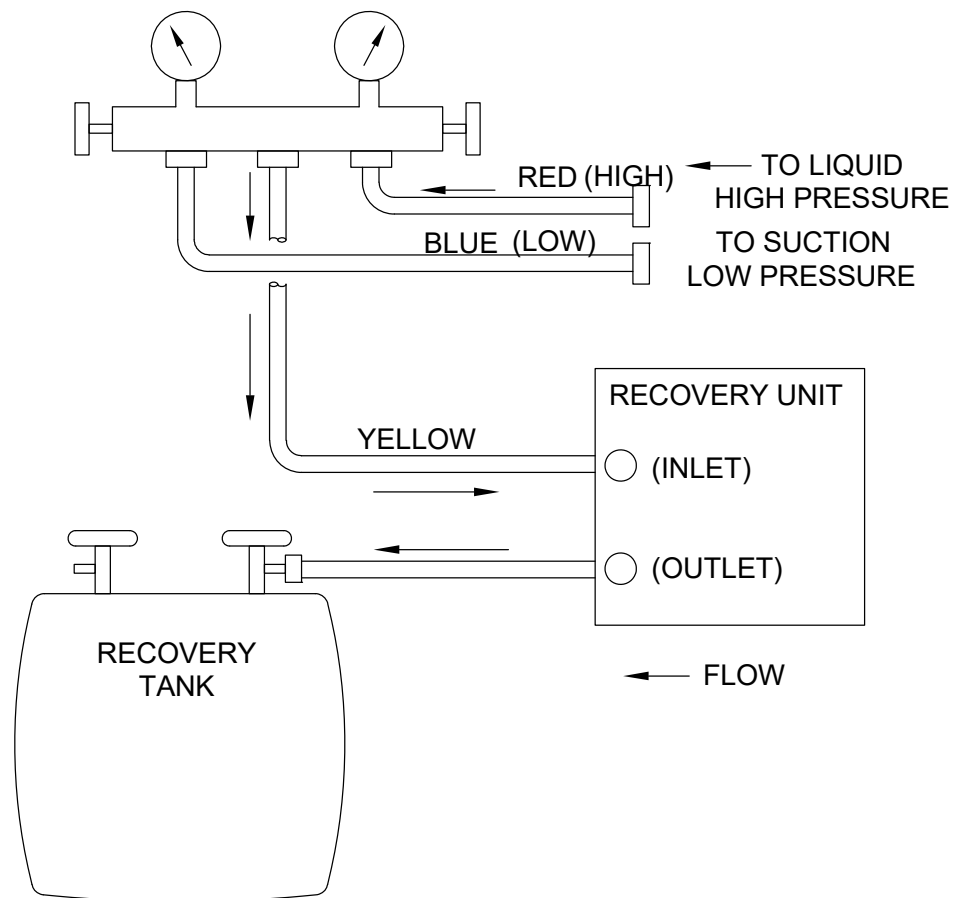

Figure 1. Refrigerant Recovery Layout.
2. Connect refrigerant hose (yellow) to refrigerant recovery unit inlet (see Figure 1).
3. Connect refrigerant recovery unit to vapor valve (blue) on recovery cylinder (see Figure 1).